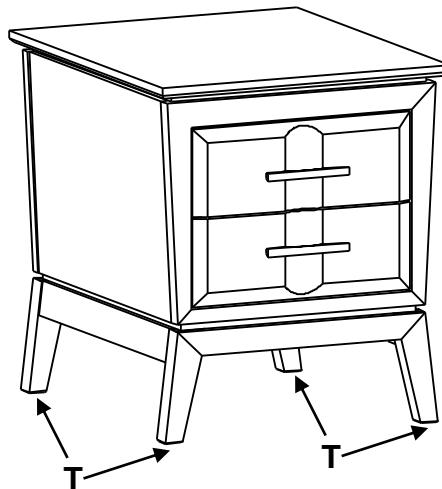

Fig. 2
2. Place the unit at its final destination. Rotate the Small Adjustable Glides (T) on the bottoms of the legs until the unit is level. See Figure 2.